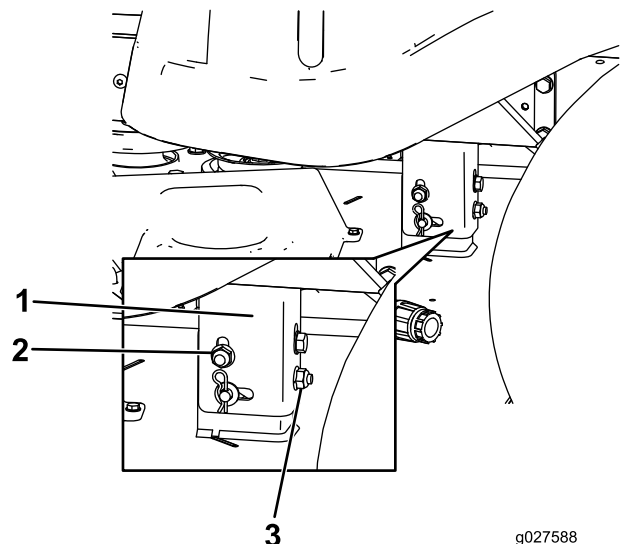

Figure 55
8. Raise or lower the left side of the mower deck by rotating the rear locking nut. (Figure 55).